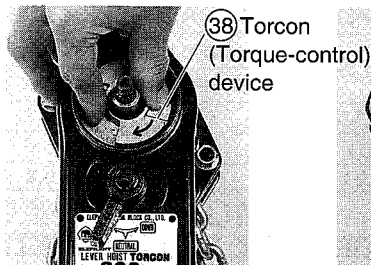

Fig. 2
2. Set the change lever to the UP position and turn the feed gear (38) clockwise several times without manipulating the operation handle as Fig. 2 shows (to get rid of a brake gap).